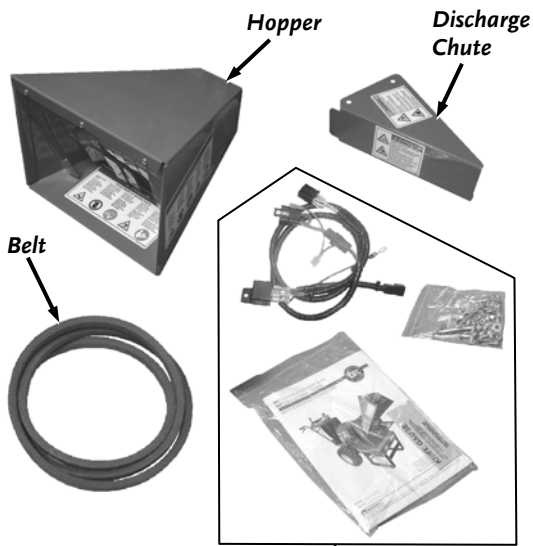

Figure 5
7. Cut open the Parts Box with a Utility Knife and remove the contents (**Figure 5**).
- Parts Box Containing: (items in list below and **Figure 5**)